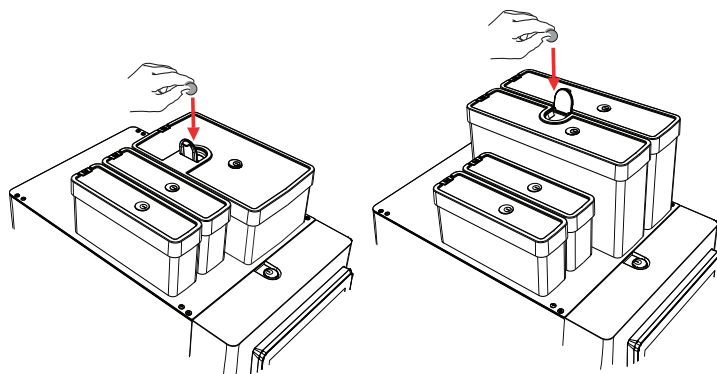

Figure 4-3
7. Place the cleaning agent in the open inlet opening of the (left) bean container, (see figure 4-3).